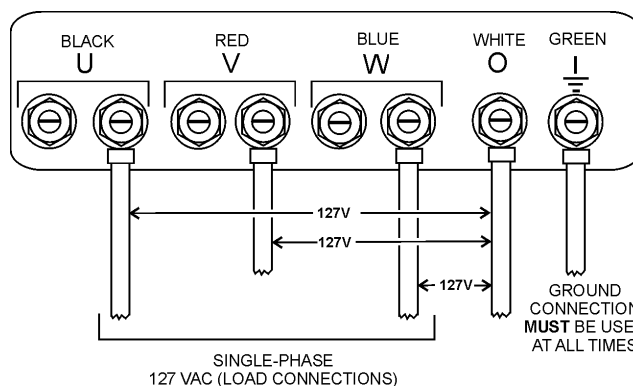

Figure 25. UVWO Terminal Lugs 1Ø-127V Connections
2. Connect the load wires to the UVWO terminals as shown in Figure 25.